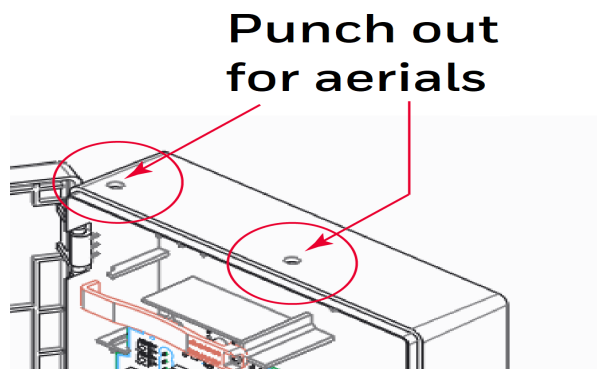

Figure 4.5: Knockouts on the Enclosure
2. Punch out the appropriate knockouts on the enclosure for the aerials (see Figure 4.5).